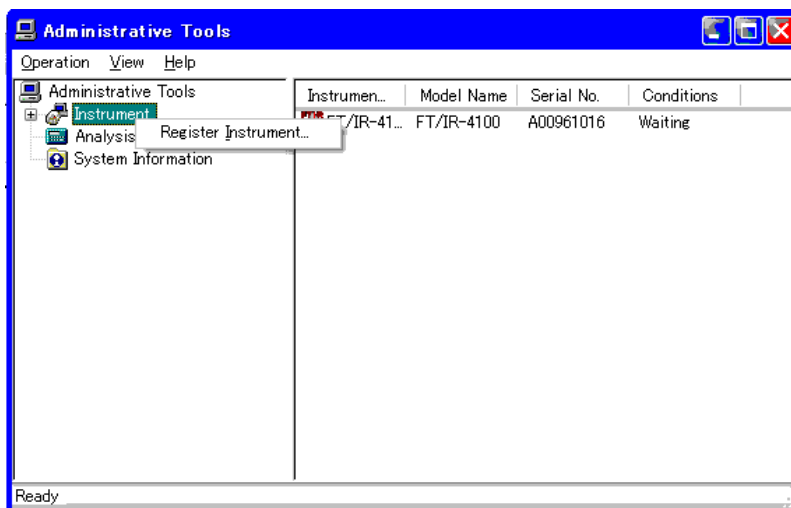

Fig.2.1 Properties
- (1) After [Administrative Tools] is selected, right click the mouse button on the instrument and click on the [Register Instrument...] command. (Fig. 2.1)